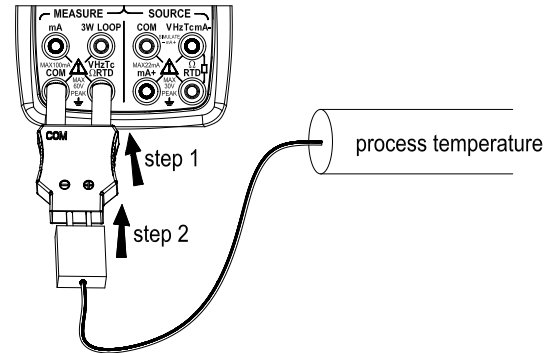

Figure 12 Measuring TC
For thermocouple signal (Figure 12)
Step 3: Connect the thermocouple convertor to the jack under test as shown in Figure 12.The selected function and the measured value and unit shall be shown in the upper part of the LCD.